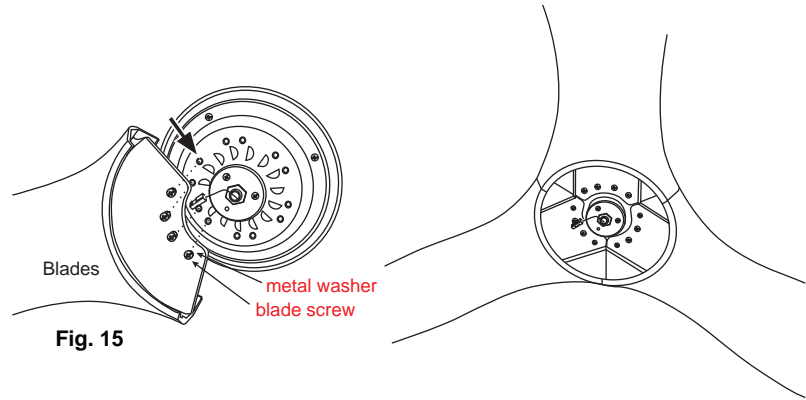

**Fig. 14**
Step 2. Slide the canopy up to the mounting bracket and place one of the key hole slots over the mounting screw on the mounting bracket. Rotate the canopy until the screw head locks in place at the narrow section of the key hole. See figure 14.
**NOTE:** Adjust the canopy screws as necessary until the canopy and canopy cover are snug. (Fig. 14)